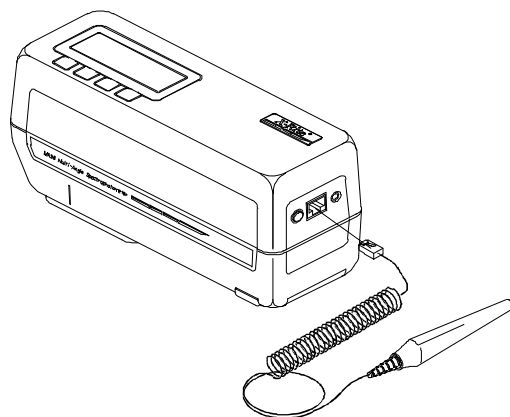

Figure 1
- 1) Insert the connector on the BCR into the I/O port of the instrument until it locks, usually indicated by an audible click. The connector inserts in one direction, (tab up) **DO NOT FORCE**. See Figure 1.